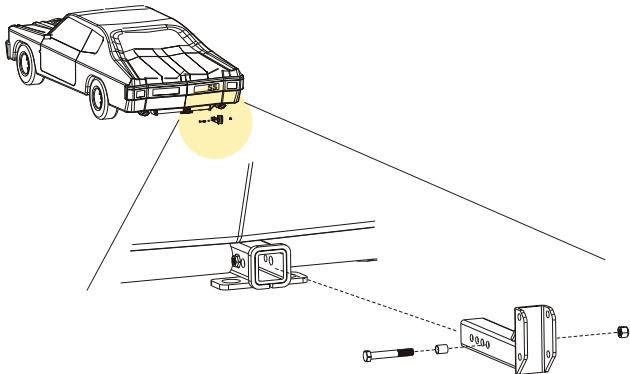

Figure 4-11
1. Fasten the hitch adapter to the vehicle hitch. *See Figure 4-11.*